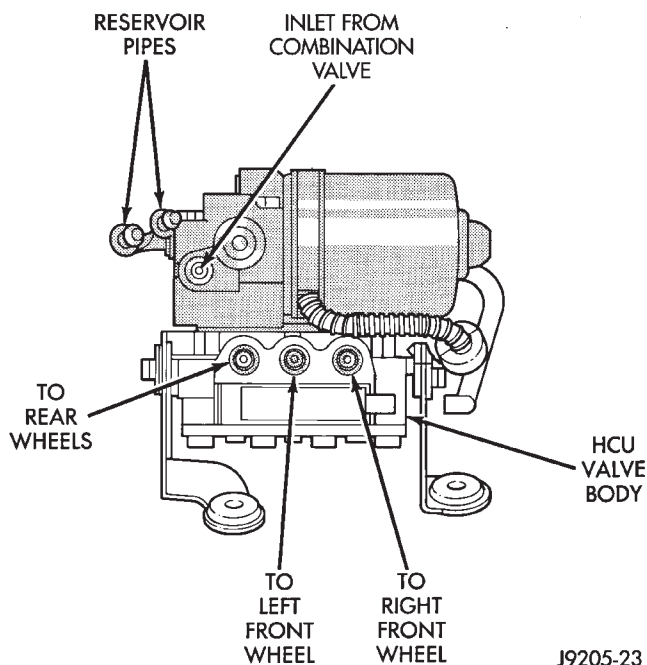
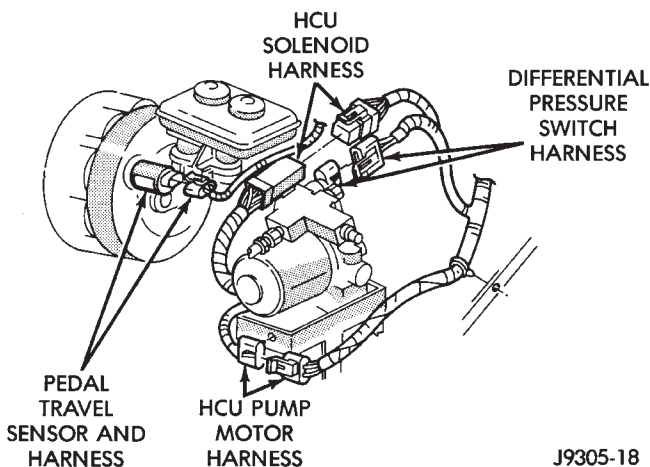

Fig. 8 HCU Hydraulic Line Connections
Fig. 9 HCU Harness Connectors
(1) Connect master cylinder reservoir hoses to HCU pipes.
(2) Position HCU assembly on mounting bracket and install attaching nuts. Tighten nuts to 12 N•m (102 in. lbs.) torque.
(3) Connect hydraulic lines and hoses to HCU (Fig. 8). Fitting nuts and bosses on valve body ports are color coded. Be sure lines are properly connected. Tighten line fittings to 12 N•m (106 in. lbs.) torque.
(4) Install and connect combination valve. Tighten brakeline fittings at valve to 21 N•m (185 in. lbs.) torque.
(5) Connect harness wires to HCU (Fig. 9).
(6) Check routing of HCU lines/hoses. Be sure lines are not kinked and are clear of engine components.
- (7) Connect battery negative cable.
- (8) Fill master cylinder reservoir with fresh Mopar DOT 3 brake fluid or equivalent.
- (9) Bleed brake system. Refer to brake bleeding and adjustments section for procedure.
- (10) Install air cleaner and hoses.
- (11) Install windshield washer fluid reservoir.
- (12) Check brake pedal action before moving vehicle. Bleed brakes again if pedal is not firm (feels soft/spongy).